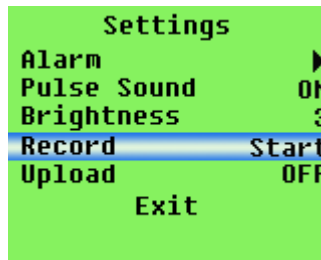

Figure 7.
a. On the main menu interface,press the"up button"or"down button",move the menu choice bar to"Record", then press the"menu button"again to enter the dialog box of figure 7:if it is in recording state,the"Stop" is displayed on menu;if it is not in recording state,the"Start" is displayed on menu.